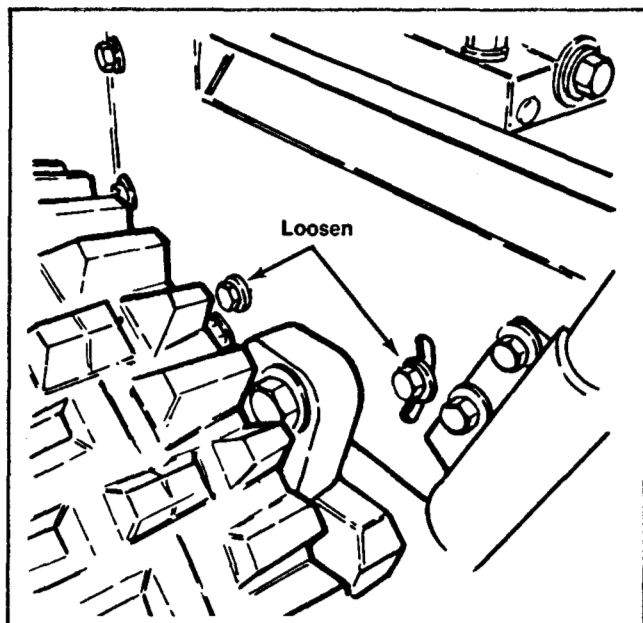

Figure 8
3. Loosen the four flanged head capscrews (two each side) securing transmission frame to engine frame. See Figure 8.